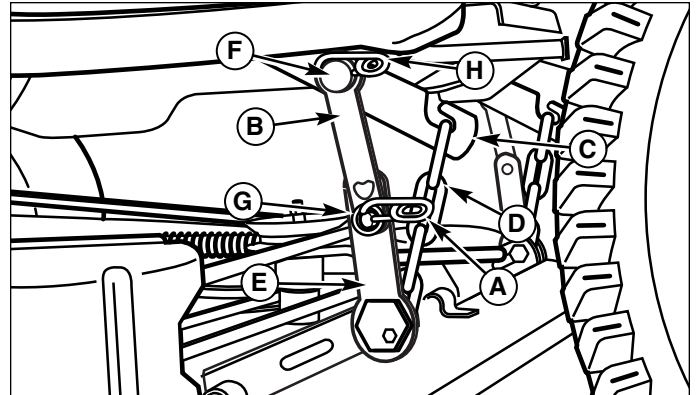
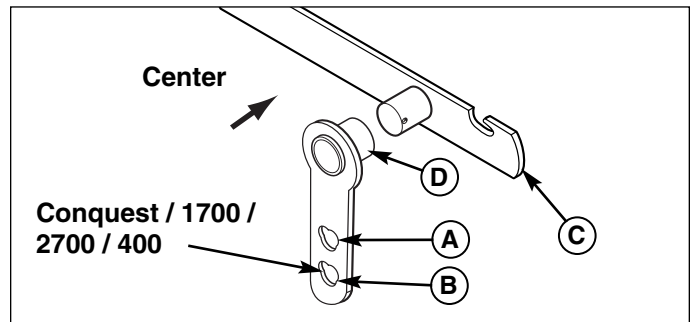

Figure 9. Lift Arms
Figure 10. Upper Hanger
4. Disconnect the safety clips (A & H, Figure 9) and washer (G) from the lower hanger (E). Remove upper hanger (B) from lift post (F). Connect upper hanger (B) to lower hanger (E) using safety clip (A) to prevent misplacing or losing parts. Repeat on other side.
6. Remove lift chain (D) from lift hook (C). Repeat on other side.
4. See Figure 9. Connect the lift chain (D) to the lift hook (C). Repeat on other side.
6. Disconnect the safety clip (A & H, Figure 9) from the upper hanger (B) and lower hanger (E) if still connected from storage. Slide upper hanger (B) over post on lift hook (F). The long hub (D, Figure 10) on the upper hanger must face toward center. Connect hole on upper hanger (B, Figure 9) to post on lower hanger (D). Secure with washer (G) and safety clip (A & H). Repeat on other side.
Note: Use lower hole for Conquest / 1700 / 2700 / 400 as shown in figure 10.